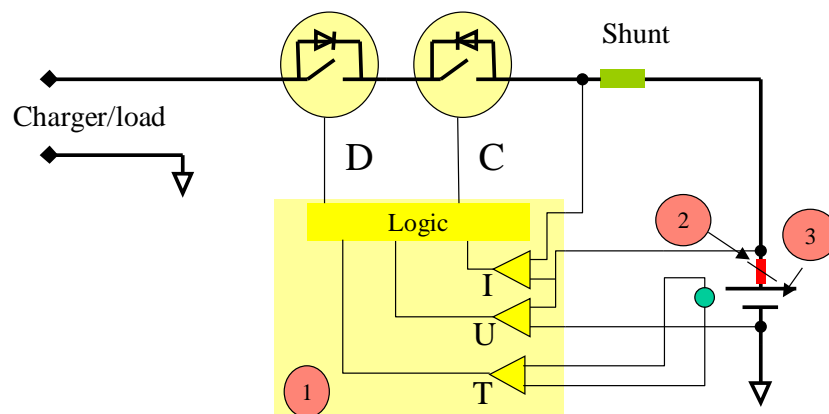

Figure 1: Battery Pac with active and passive protection system
Figure 1 shows a typical schematic drawing of a lithium ion battery pack. Next to the active protection circuit ① as described above there are also passive protection elements used in the battery pack. For additional over-current and over-temperature protection a polyswitch ② is used and the cell itself has safety elements ③ (valve and shut down separator).
In Figure 1, you see the voltage and current for the test at high state of charge, without the initial charge step skipped.